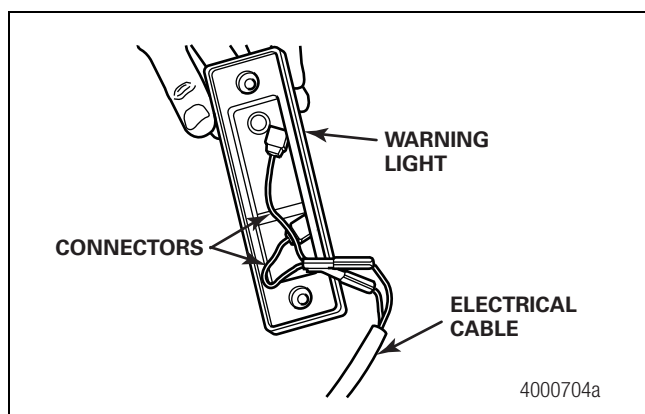

Figure 2.63
2. Connect the warning light to the wiring harness. The standard wire harness is shipped as a single assembly consisting of a black and white wire with spade terminals on one end that connect to the control box, and bullet terminals that connect to the warning light. Figure 2.63.